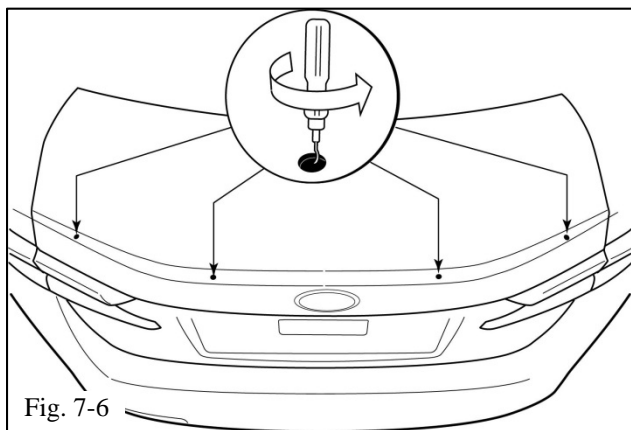

Fig. 7-6
- (j) Remove the masking tape surrounding the holes and use a de-burring tool to remove any burrs on the edges of the four holes (Fig. 7-6).